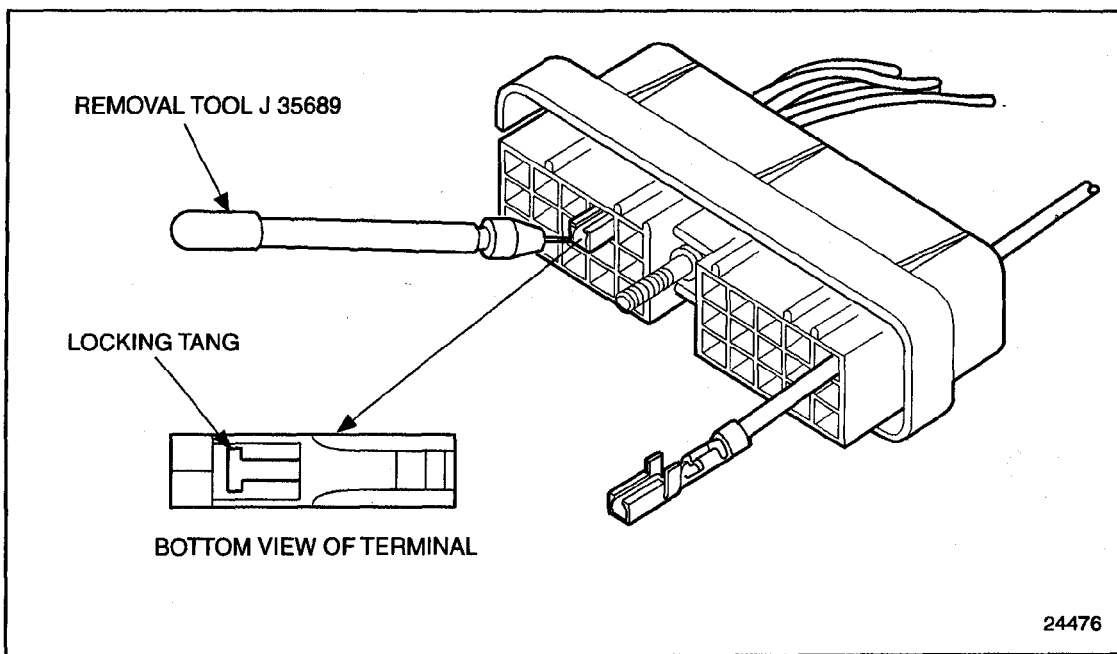

Figure 8-29 Terminal Removal
1. Insert the removal tool into the cavity of the connector, placing the tip of the tool between the locking tang of the terminal and the wall of the cavity. See Figure 8-29.